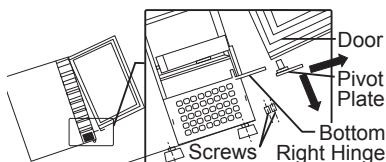

Figure 1
1. While tilting unit back, remove the 2 screws from pivot plate and the bottom right hinge. (See Figure 1.)